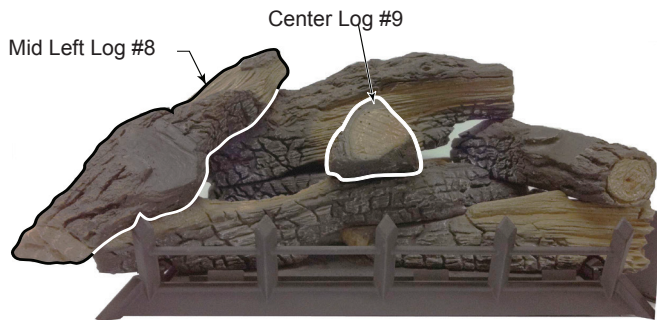

Figure 56
9. Place center log (#9) onto front bottom left log (#5) by placing notch on bottom of log #9 onto locating block on log #5. The flat triangle-shaped end of log #9 should be towards front with pointed end of log resting on bottom rear log (#1). Figure 56
If the pilot flame does not touch the thermocouple, then the main burner cannot function reliably. Refer to Figure 56 for incorrect shape of pilot flame.